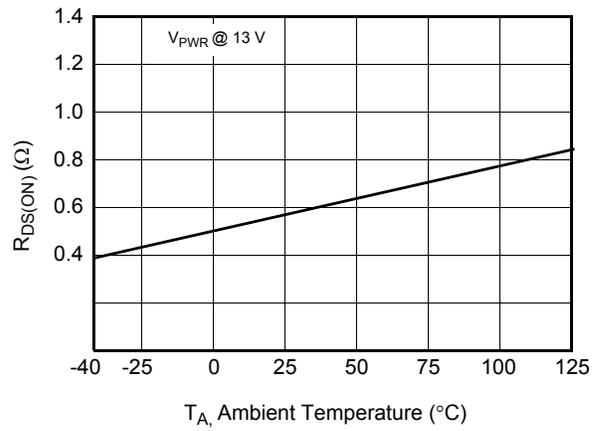

**Figure 4. SPI Timing Characteristics**
The Serial Input (SI) pin is used to enter one of seven serial instructions into the 33999. SI SPI bits are latched into the Input Shift register on each falling edge of SCLK. The Shift register is full after 24 bits of information are entered. The 33999 operates on the command word on the rising edge of  $\overline{CS}$ . To preserve data integrity, exercise care to not transition SI as the SCLK transitions from high-to-low state (see Figure 4, page 8).